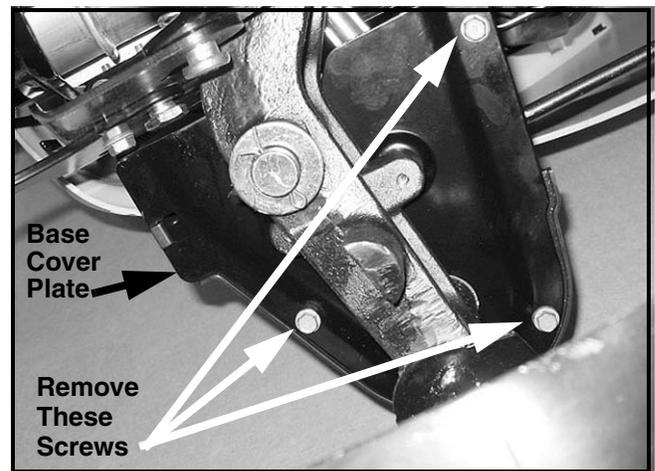

FIGURE 5
15. Remove the three (3) screws securing each front wheel steering gear plastic cover to the base cover plate. Remove the plastic covers. See Figure 5.